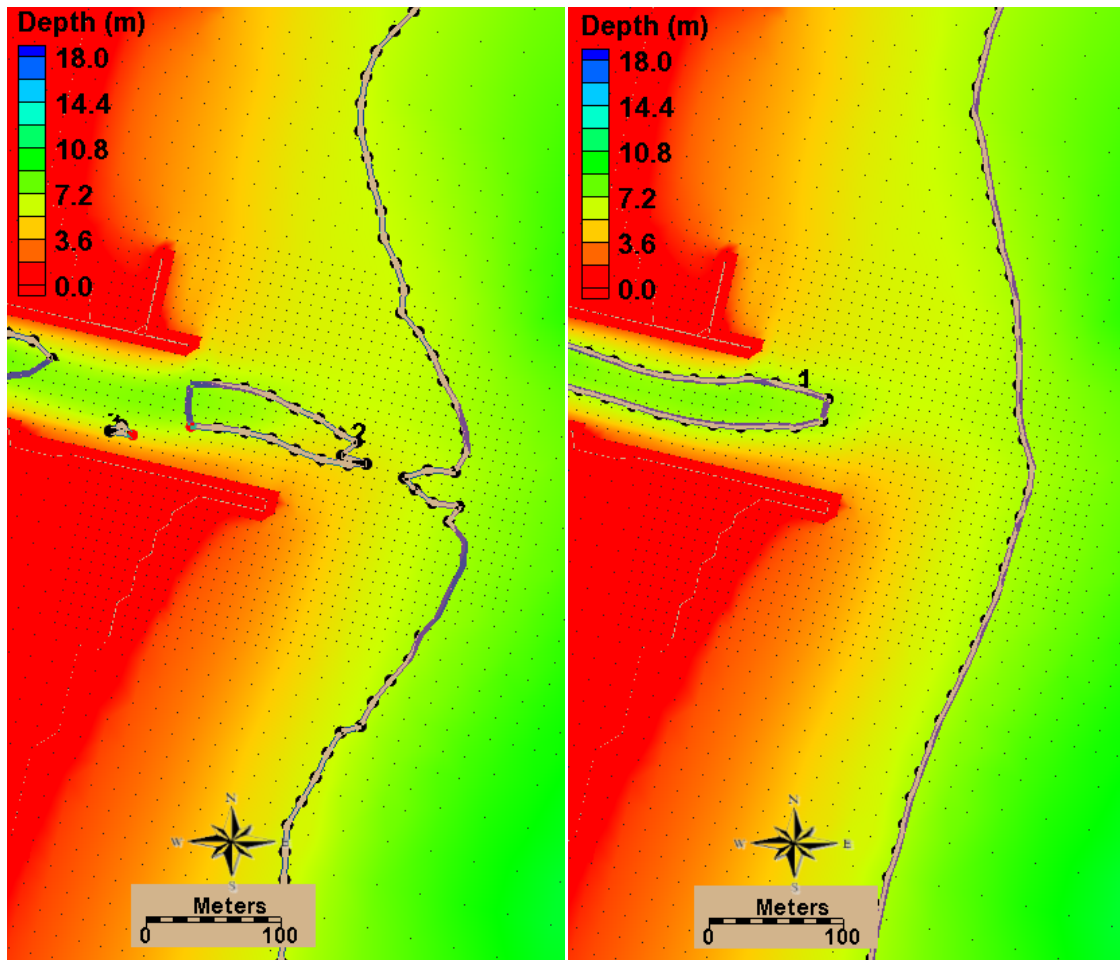

Figure 8.4.10. Mapped coverage of the 6-m contour at Months 1 and 6 (left and right, respectively).
6. Create another new Map Coverage, select the final timestamp (30 May), and go to *Data|Scatter Contour -> Feature* and select the same elevation (6.0 m) and point spacing. Switch between the two coverages to view the location of each contour (Figure 8.4.10). Note that the arcs hold a z-elevation (displayed in Z in the bar above) and are partially visible under the color-filled scatter data.
Creating polygons between time series allows for calculation of planform area change at a morphologic spatial scale through time. The difference shown in the arcs in Figure 8.4.10 is substantial, and can be quantified with the use of arcs and polygons. It is important to be careful with delineating the morphologic form of interest. If the full area is being calculated for a feature (an ebb shoal), be sure to be discrete in the size of these aerial calculations because they may skew the final calculation of the morphologic feature of interest.